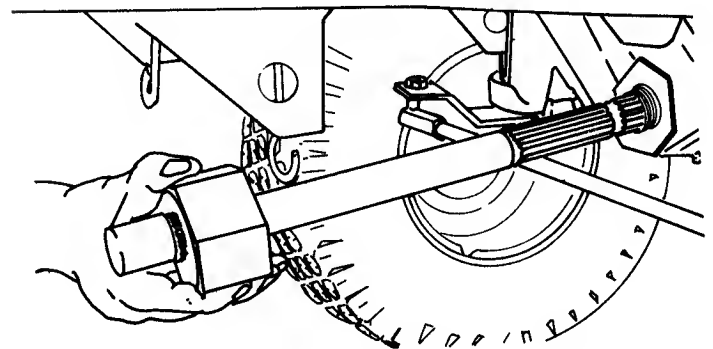

FIG. 2.24 — PULLING FRONT PTO SHAFT
5. Remove large nut from rear of axle mounting sleeve and slide PTO shaft with nut and bearing out rearward. Fig. 2.24.
5. Install shaft into axle mounting tube at rear. Fig. 2.24.